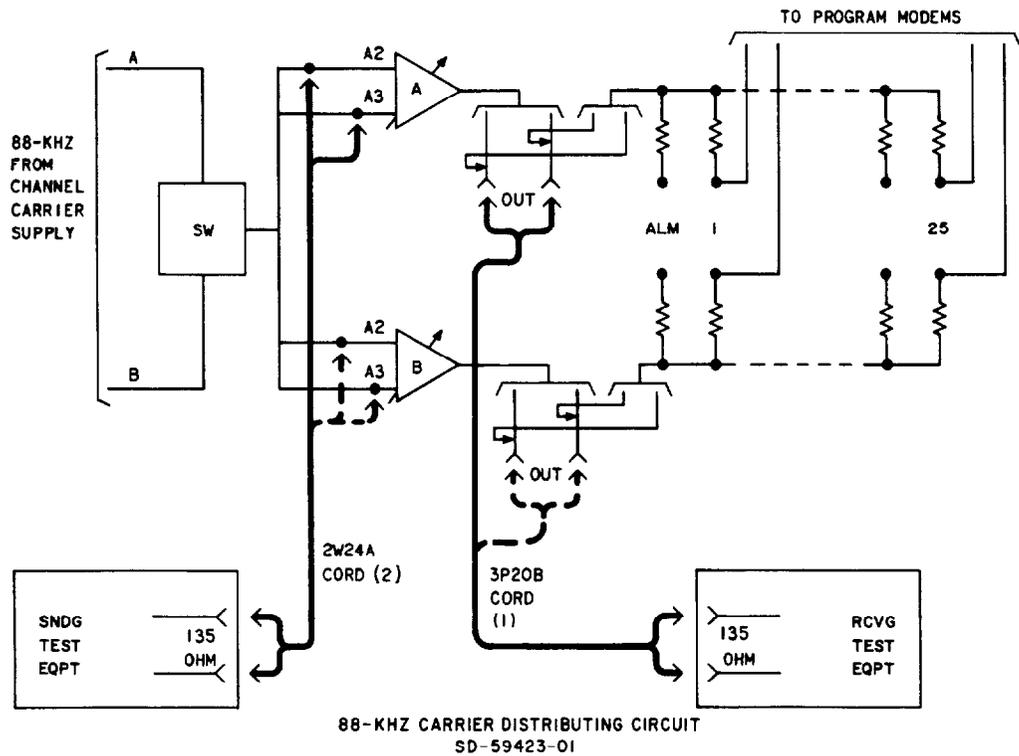

Fig. 3—88-kHz Carrier Distributing Circuit—Amplifier Tuning
| 2 | Connect the RTE to the OUT jack of the amplifier to be tuned [patch (1), Fig. 3]. |
5	Connect the STE to terminals A2 and A3 of the IN transformer [patch (2), Fig. 3].
7	Remove patches (1) and (2), Fig. 3.